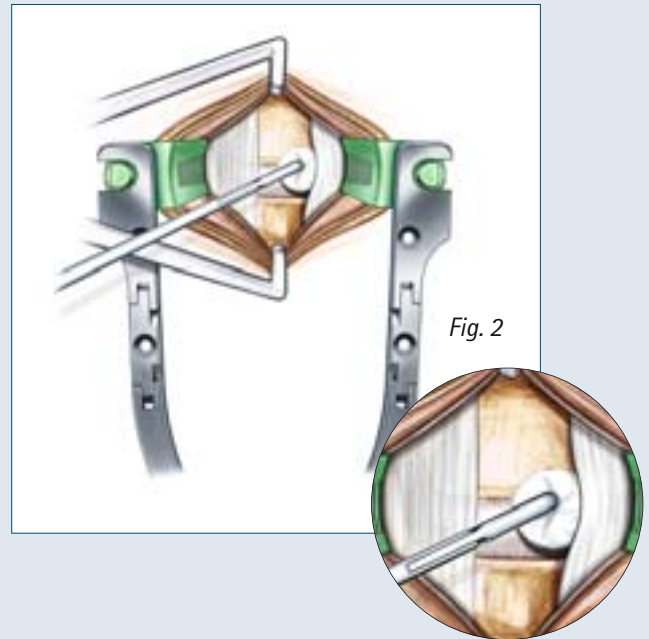

Fig. 2
- After the skin incision and preparation, the CCR retractor is applied. The blades are available in PEEK and Titanium. A counter retractor can be used (Fig. 2). The subcutaneous tissue is separated from the platysma cranially, caudally and medially, and the platysma is also separated following the direction of its fibres. The margins of the platysma can be held apart with the retractor or with two surgical forceps.